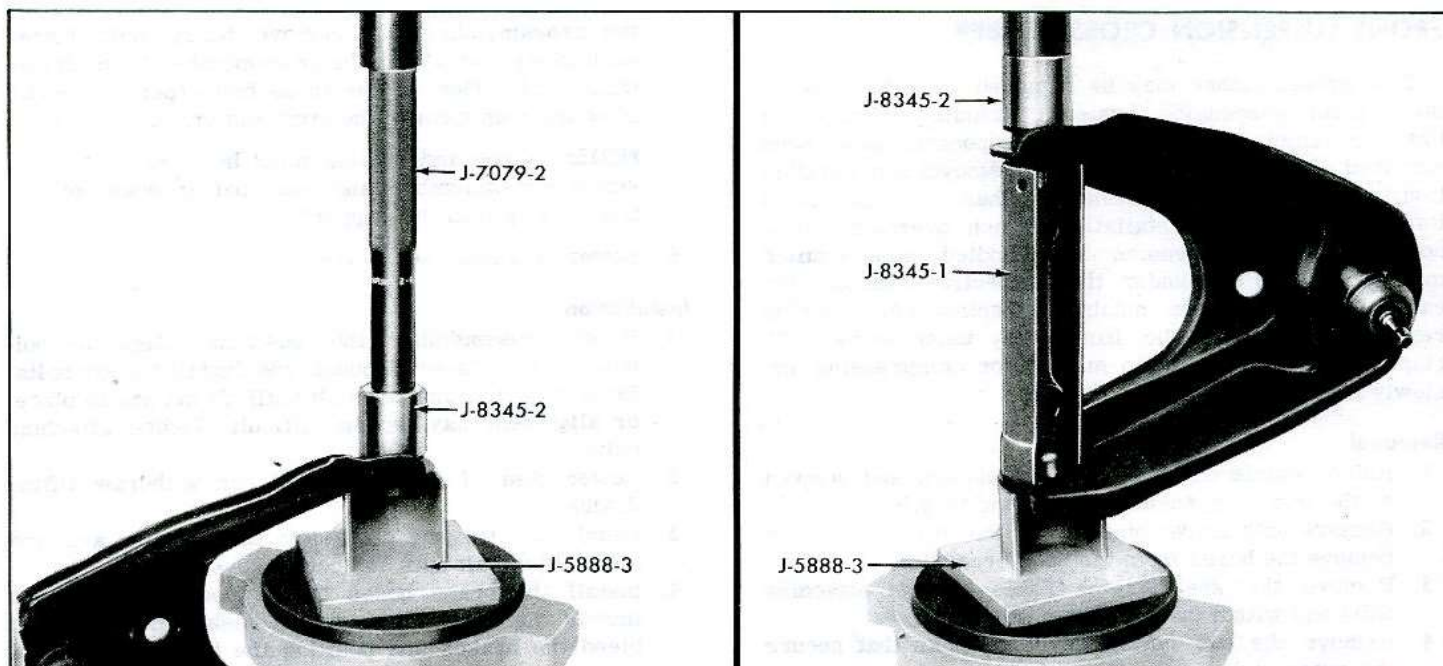

Fig. 3-23—Installing Upper Control Arm Bushings
1. Set control arm in place on Tool J-5888-3. Using Tool J-7079-2 and J-8345-2, press control arm bushing into place (fig. 3-23).